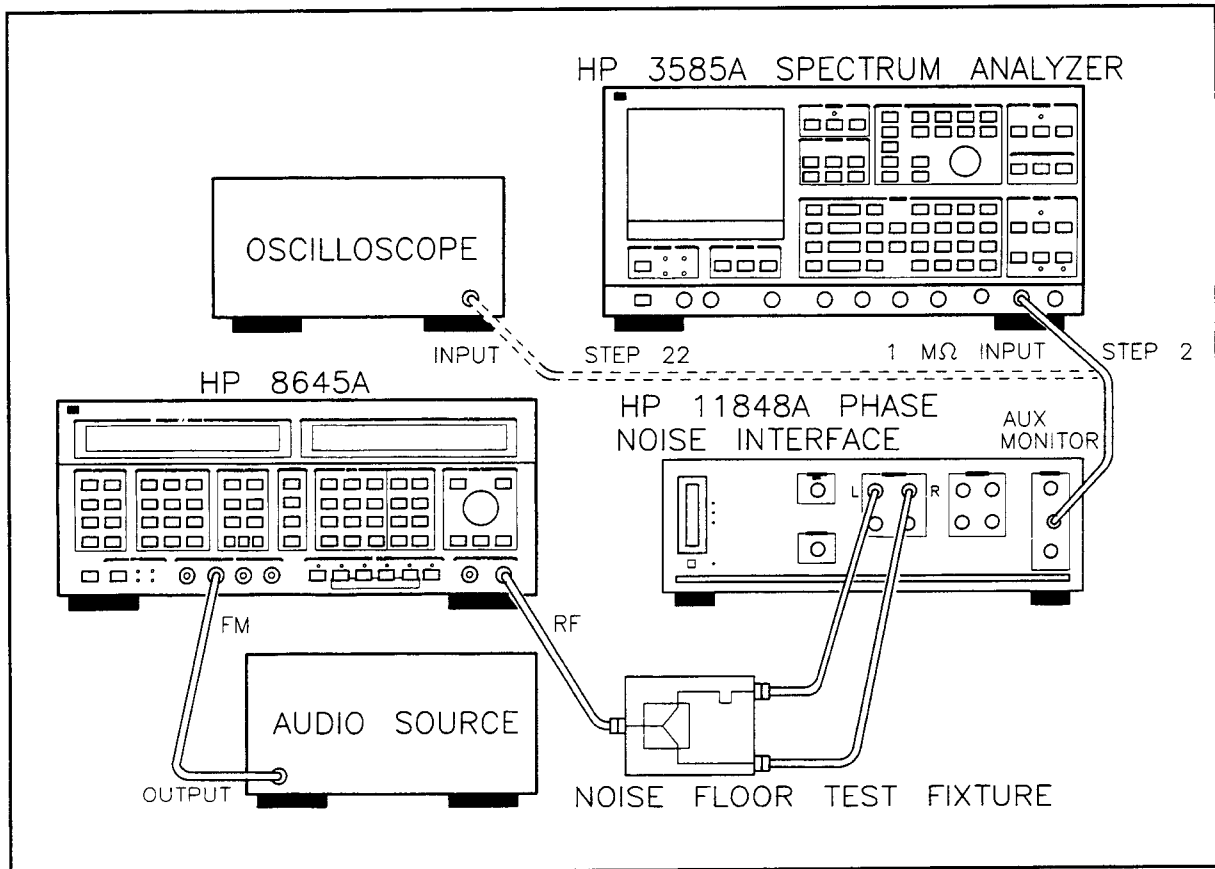

Figure 3-2. *FM (High Deviations and Rates) Test Setup*
2. Connect the equipment as shown in figure 3-2. Check that the SPECTRUM ANALYZER output connector on the front panel of the HP 11848A Phase Noise Interface is terminated in $50\ \Omega$. Also, check that the delay line connectors are tight.
14. Set the audio source to +10 dBm at 50 kHz and connect it to the Signal Generator's MODULATION INPUTS FM connector. (Refer to Figure 3-2.)
22. Connect the auxiliary monitor output of the interface to the high impedance, ac coupled input of the oscilloscope. (Refer to figure 3-2.)